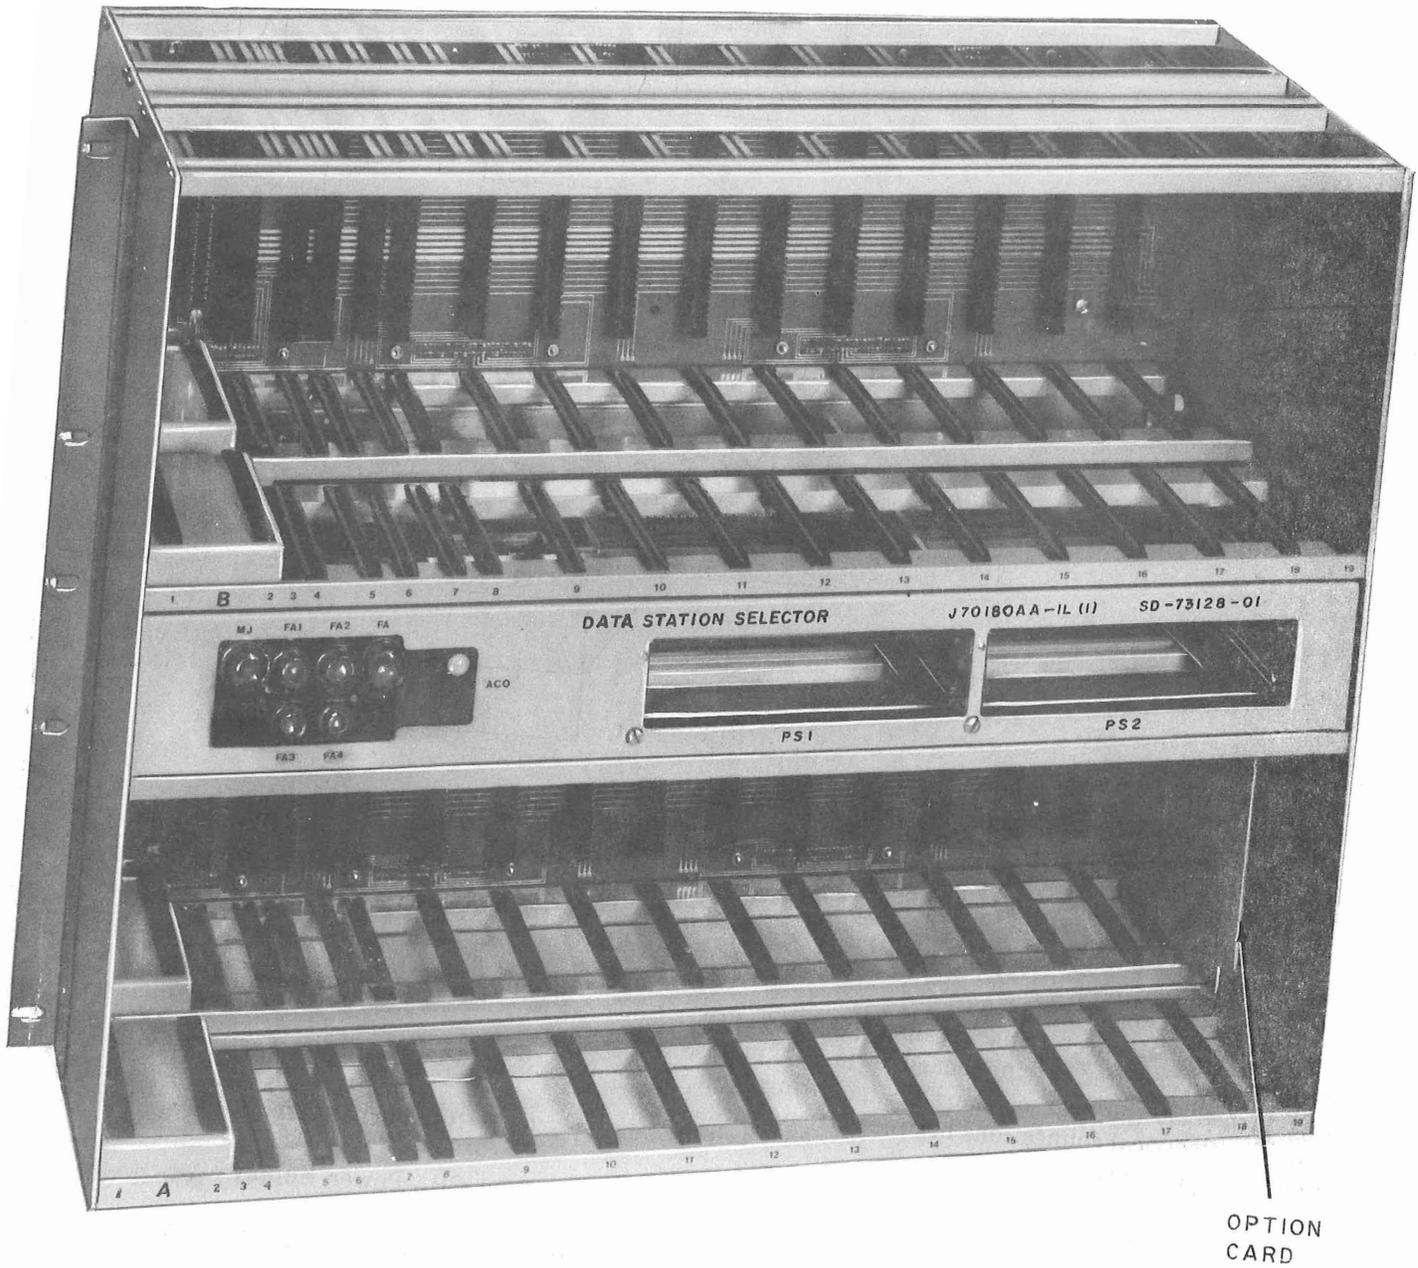

Fig. 2—Data Station Selector Mounting Unit J70180AA
2.02 The J70180AA DSS 2-shelf unit (Fig. 2) is divided into two shelves by the power distribution panel. The bottom shelf is designated 'A' and the top shelf is designated 'B'. The power distribution panel provides alarm and fuse indicators and connections for two plug-in power supplies. The DSS mounting is 17 inches high, 12 inches deep, and mounts on the standard 23 inch central office frame. The DSS mounting weighs 24-1/2
Table A gives the circuit pack requirements for various arrangements illustrated in Fig. 16 through 20. The expansion units are supplied with power from the start-up unit via the expansion cables. The slot numbers given in Table A correspond to the numbers on the DSS mounting shown in Fig. 2. In addition, each DSS mounting is furnished with an option card which interconnects the backplane wiring for one of the following four arrangements: